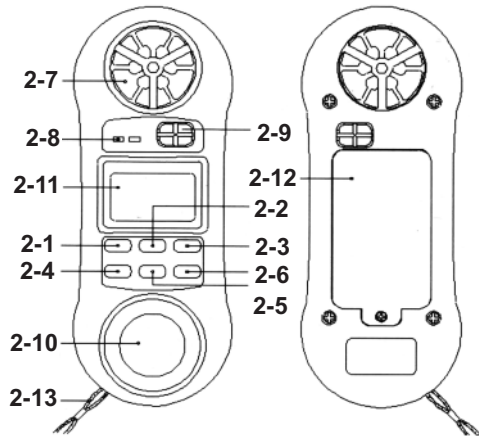

Fig. 1
- 1) Power on the instrument by pressing the "Power Button" (2-1, Fig. 1)
- 2) Select the Anemometer function by pressing "Function Button" (2-6, Fig. 1)
- 3) Press the "Unit/Zero Button" (2-4, Fig. 1) to select unit that you want and then face the "Air Flow Sensor" (2-7, Fig. 1) to the source of the wind.
- 2) Plug a K-type thermocouple probe in the "Thermocouple Input Socket" (2-8, Fig. 1)
- 3) Select the Temperature function by pressing "Function Button" (2-6, Fig. 1)
- 2) Select the Relative Humidity Function by pressing the "Function Button" (2-6, Fig. 1)
- 2) Select the Light Measurement function by pressing the "Function Button" (2-6, Fig. 1) until the light value is displayed. The light display digits are oriented 180° from the other function displays for easy exposure and output reading of the light sensor.
- 3) Press the "Lux/FC Button" (2-5, Fig. 1) to select measuring unit.
\* For bet results, zero the light sensor prior to use in a dark environment. Placing the light sensor end of the meter under a desktop or flat surface so as to block any light can accomplish this. Then press the "Unit/Zero Button" (2-4, Fig. 1) to set the meter indication to zero.
During the temperature measurement, if you intend to change the temperature units from "°C" to "°F" or "°F" to "°C", then just press the "°C/°F Button" (2-5, Fig. 1) once.
Whenever you press the "Hold Button" (2-2, Fig. 1) the meter will freeze the current reading value with a "HOLD" symbol on the display.
the "Max/Min Button" (2-3, Fig. 1) once. There will be a "REC" symbol on the display.
- (a) Press the "Max/Min Button" (2-3, Fig. 1) once and the "Max" symbol along with the maximum value will appear on the display.
- (d) Clear the Max/Min value recorded by pressing the "Hold Button" (2-2, Fig. 1) once. Previous recorded Max/Min values will be given up and then revert to the REC function to continue recording.